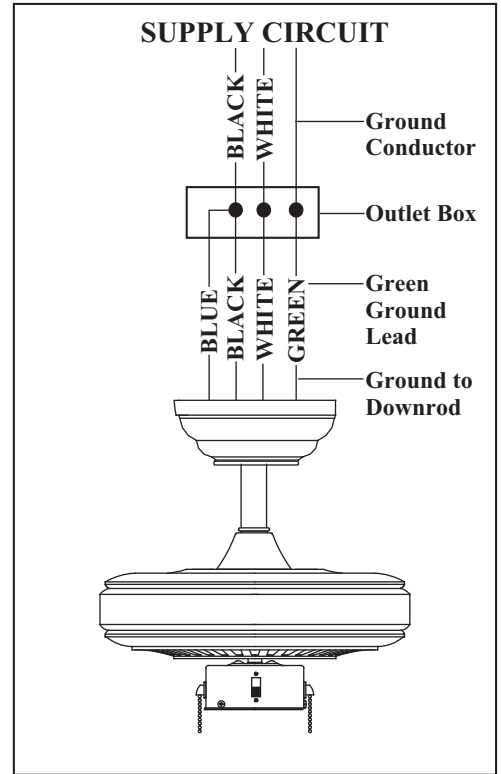

Figure 13
1. Connect the ground conductor of the 120V supply (this may be a bare wire or a wire with green colored insulation) to the green ground lead(s) of the fan (Figure 13). When using standard ceiling mounting, there are two green grounding leads; one from the ceiling mounting bracket and one from the ball/downrod assembly. When using “Close-to-Ceiling” mounting, there is only one green ground lead from the ceiling mounting bracket since the ball/downrod assembly is not used.
2. Connect the fan motor white wire to the supply white (neutral) wire using a wire nut. (Figure 13)
3. Connect the fan motor black wire to the supply black (hot) wire using a wire nut (Figure 13).